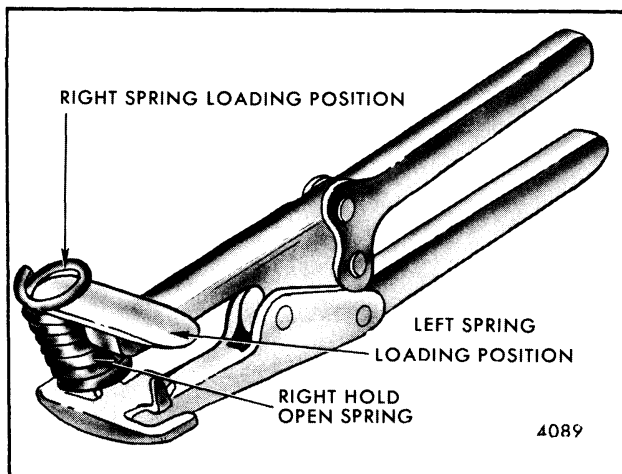

Fig. 5-59-Hold-Open Spring, Loading Positions Using Tool J-23497, or Equivalent
2. Using spring compressing tool (J-23497 or equivalent), install hold-open spring in lower hinge (Figs. 5-59 and 5-60).
**NOTE:** When installing hold-open spring on tool J-23497 or equivalent position spring so that the cut end of the spring is in line with the center of the blade on the straight jaw. Figure 5-59 illustrates position of spring for right side installation (left side installation would utilize the other end of the blade). The other end of the spring should be seated over the hook on the opposite jaw of the tool.